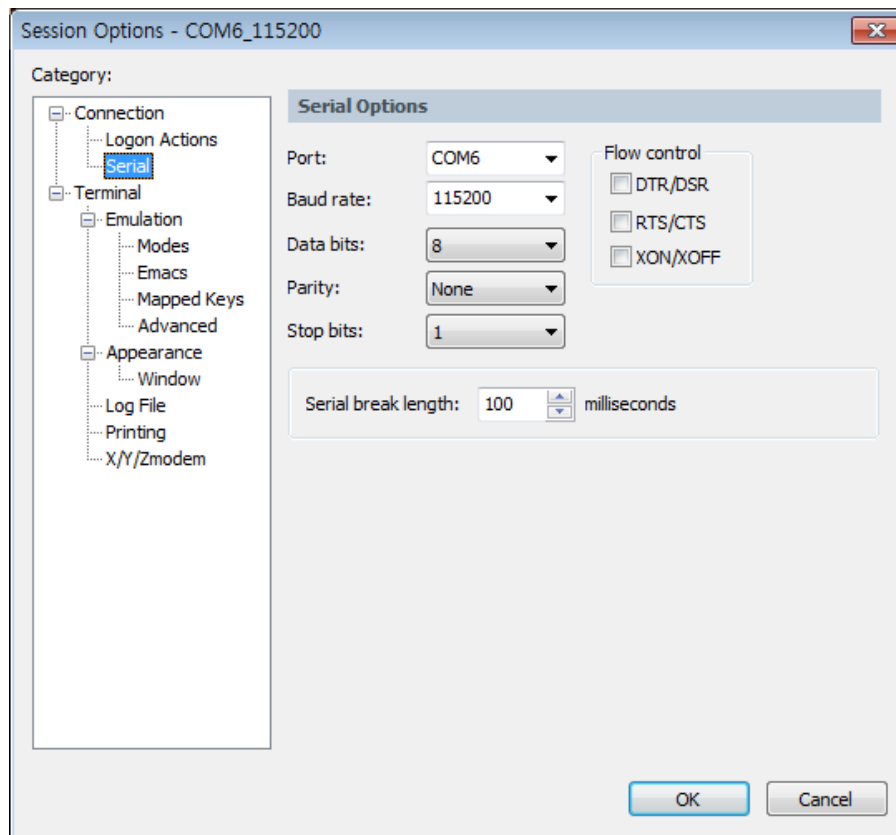

Figure 3: Serial Port Configuration
5. Select **Setup > Serial Port** and configure the UART port with the parameters as shown in Figure 3. Select the higher COM port number as discovered in step 2.